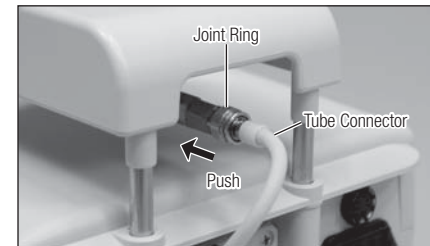

Fig. 35
- 2) Push the Joint Ring in to release the Tube Connector and disconnect the Irrigation Tube. (Fig. 35)